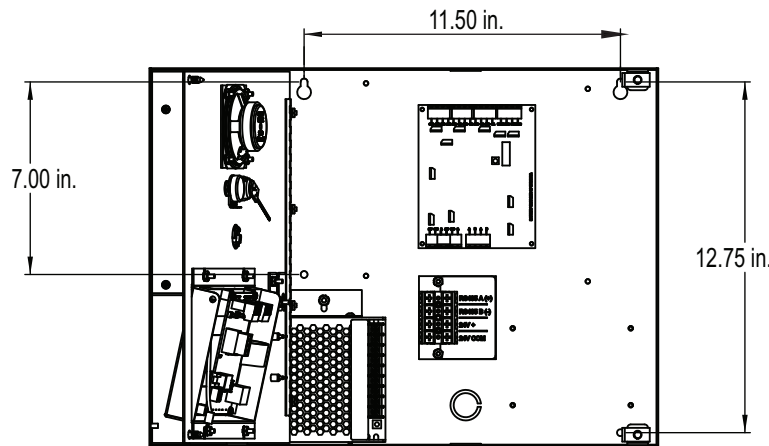

Figure 1. Mounting screw locations
3. Position the back box on the wall. Open the inner door and mark the hole locations for the mounting screws. Use Figure 1 as a reference.